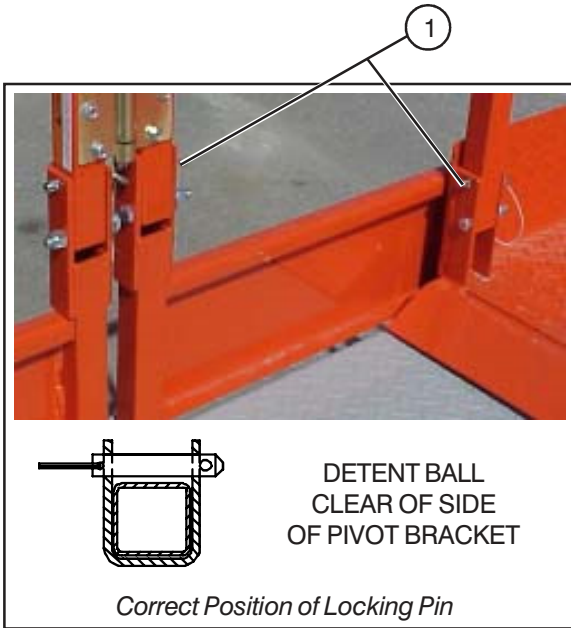

Figure 2-8. Folding Guardrail System
- Guardrail Locking Pin with Lanyard** - To fold the guardrail system down, remove the locking pin at each pivot point and lower each guardrail. To raise the guardrail system, swing up each guardrail and lock in place with the locking pins ensuring that the detent ball of each pin is all the way through and clear of the side of the pivot brackets (Figure 2-8).